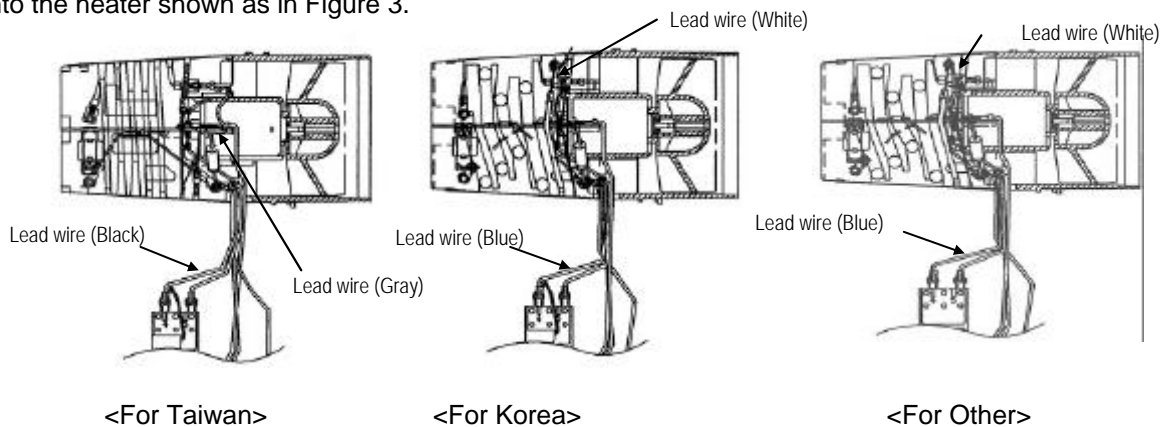

Figure 3
(2) Soldering White(220V) / Gray(110V) and Blue(220V) / Black(110V) lead wire into the heater shown as in Figure 3.